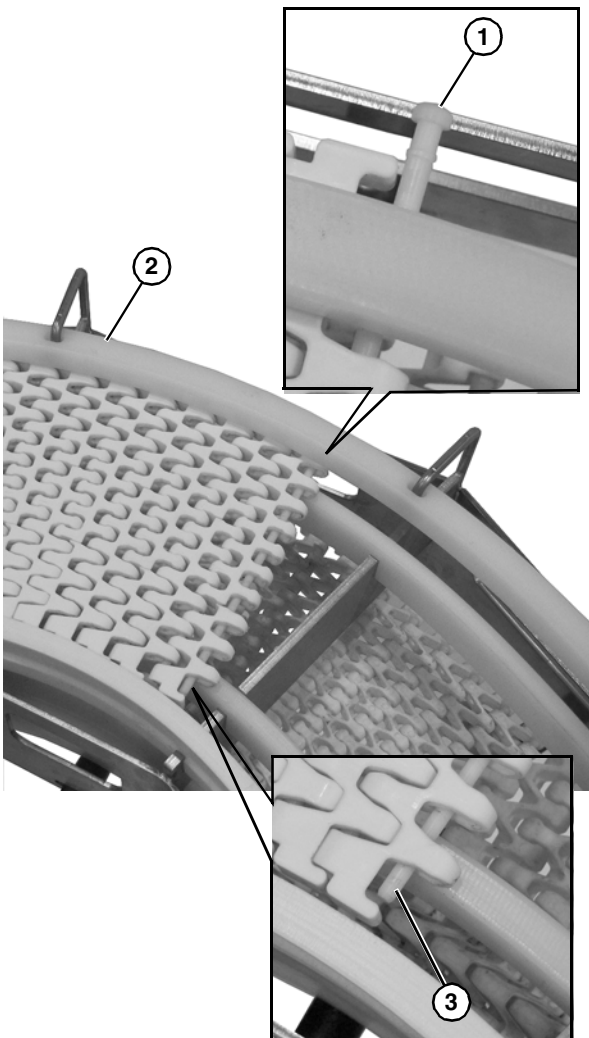

Figure 36
2. Orient the belt direction such that the pin heads (**Figure 36, item 1**) are on the outside of the belt radius (**Figure 36, item 2**). The straight portion on the pin (**Figure 36, item 3**) will be on the inside radius.